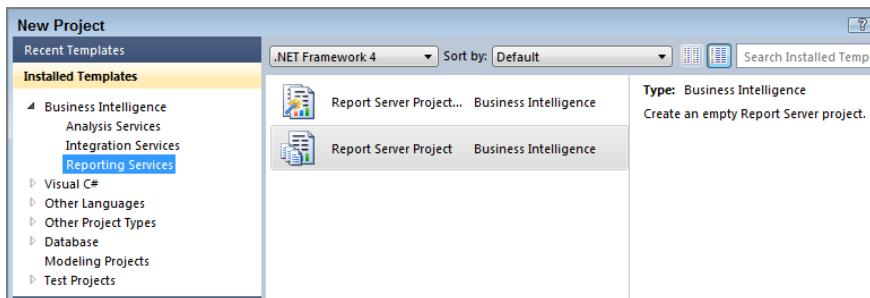

Figure 3-2
2. In the center of the New Project window, there are two Report Server options, as shown in Figure 3-2. The first option runs a wizard to walk you through creating a report. The second option starts a blank Report Services Project. Select the second option to create a blank project. At the bottom of the window type **My First SSRS Project** in the name box, then click OK.